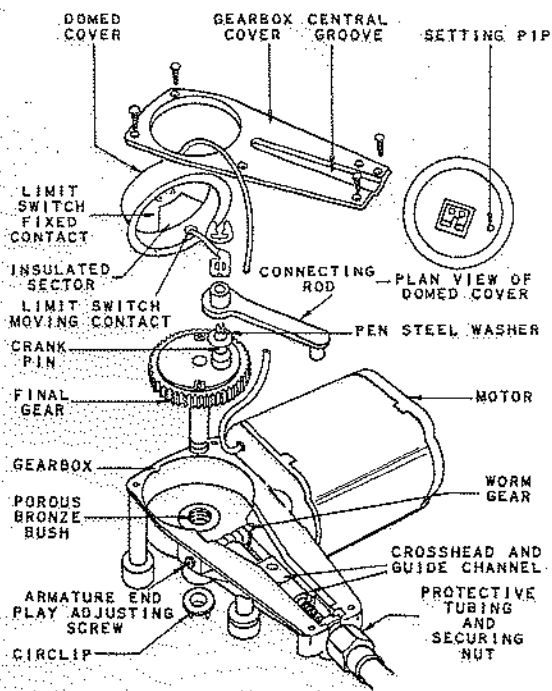

Fig. 3
**(b) Dismantling (Refer Fig. 3).****(1) Removal of Motor from Vehicle:**